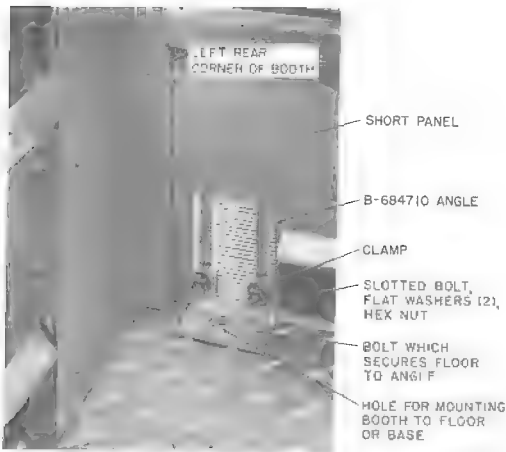

Fig. 11—Anchor Bracket and Leveling Device
2.21 Adjustable mounting angles are provided to facilitate booth leveling up to 3 inches (Fig. 11). They are also used for bolting the booth to its mounting surface.
- If a KS-19580, List 28 foundation template is used, remove insert plugs from template and secure anchor brackets (Fig. 11) of booth to template using four 3/8-16 by 1-1/4 hex head
- (1) Mark the location for four mounting holes.
- (2) Drill four lead holes to accommodate 5/16 by 2-1/2 inch lag screws.
- (3) Secure booth to floor using the four 5/16 by 2-1/2 inch lag screws, four 5/16-inch lockwashers, and four 5/16-inch flatwashers.
- (d) Adjust the anchor brackets (Fig. 11) if necessary, and ensure that the booth is level.